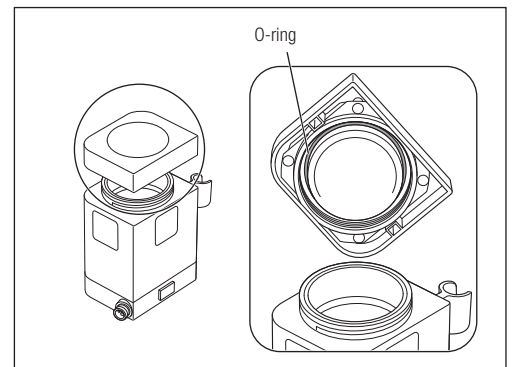

Fig. 48
- 2) Remove the O-ring from the inside of the Chamber Cap using a needle, etc. (Fig. 48).